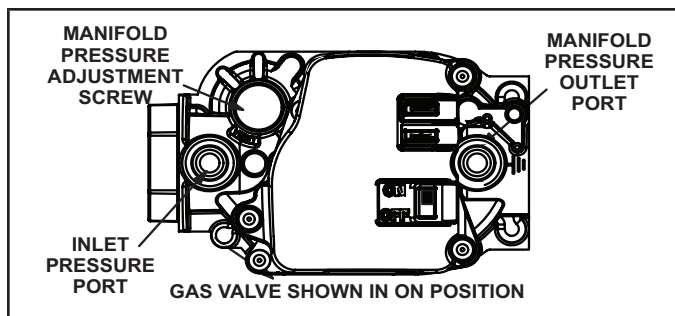
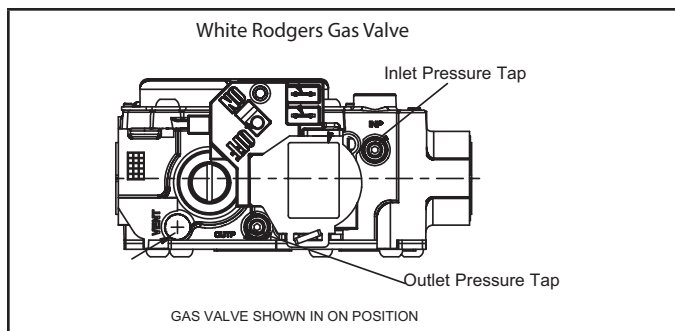

FIGURE 37
FIGURE 38
Gas Valve Operation (FIGURE 37 and FIGURE 38)
- 6 - Move switch on gas valve to **OFF**. Do not force. See FIGURE 37 and FIGURE 38.
- 8 - Move switch on gas valve to ON. Do not force. See FIGURE 37 and FIGURE 38.